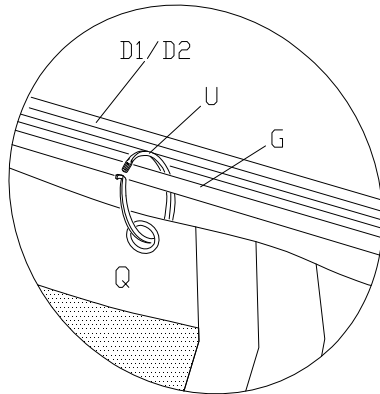

Fig.13
Affix the Gazebo to the ground by inserting the Stake(V) through the Post(E) bases. (See Fig.13)